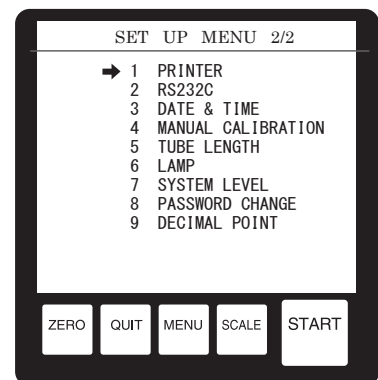
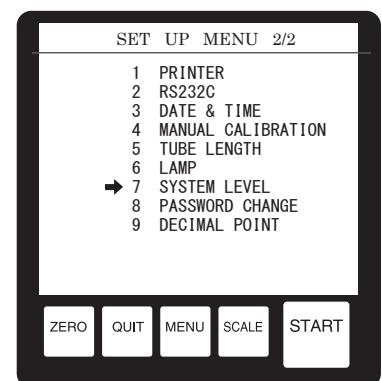

Fig.7-10
Fig.7-11
Once a password is entered correctly, the display will return to the SET UP MENU screen (Fig. 7-10).
a) Using the ↑ or ↓ key on the screen shown in Fig.7-10, move the arrow to "7 SYSTEM LEVEL" (Fig.7-11).